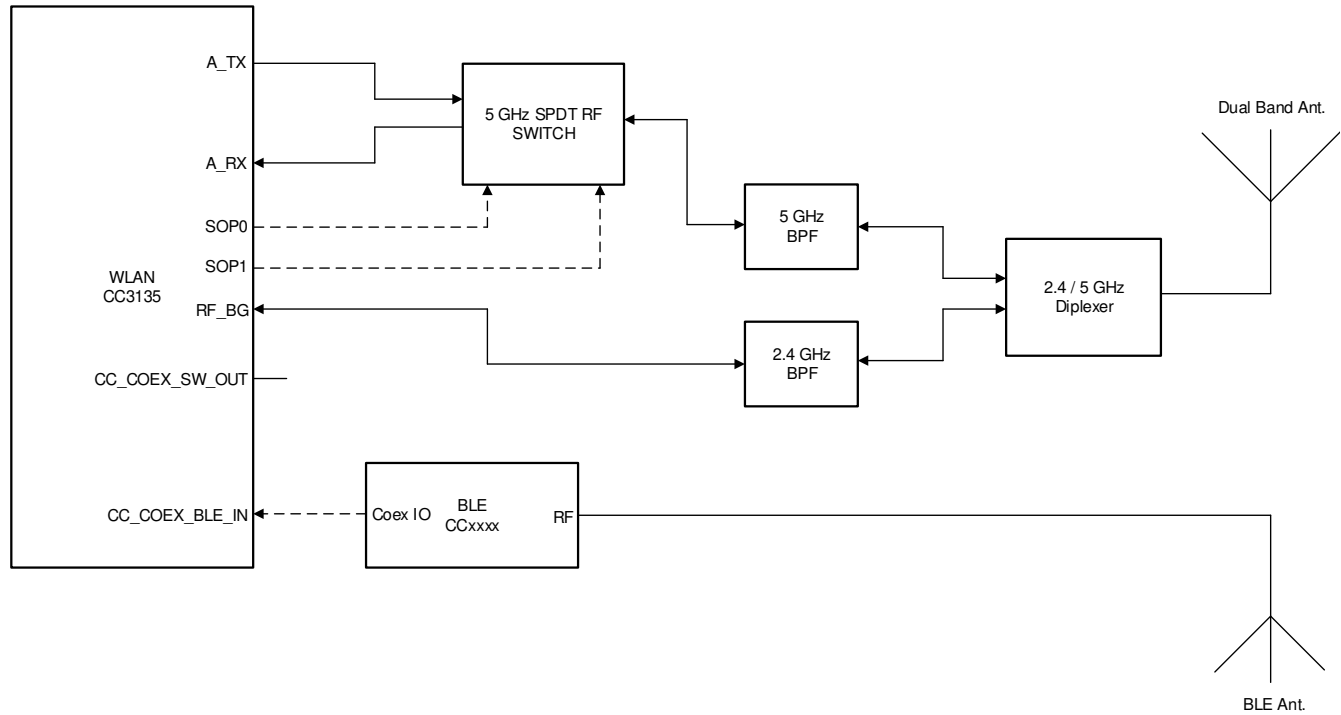

图 9-4. Dual Antenna Coexistence Solution with 5GHz Wi-Fi®
- 5GHz Wi-Fi band (see 图 9-4)
图 9-4 shows the dual antenna implementation of a complete Bluetooth® low energy and WLAN coexistence network with the WLAN operating on either a 2.4- or a 5GHz band. In this case, the 2.4GHz and 5GHz Wi-Fi share an antenna and the BLE has it's own dedicated antenna. The SOP lines control the 5GHz switch. Note in this implementation no Coex switch is required and only a single GPIO from the BLE device to the CC3135 device is required.